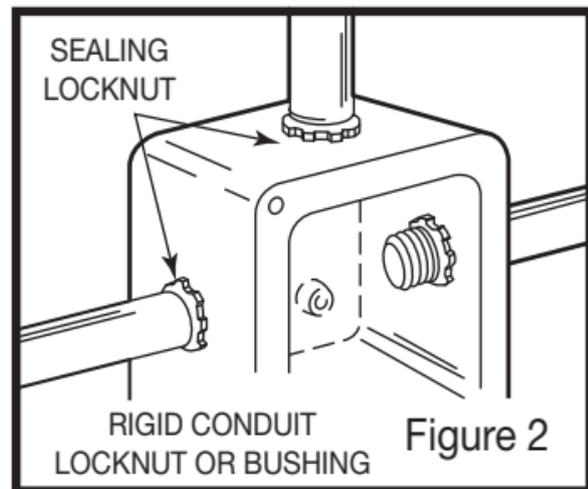

Figure 2
2. Insert conduit into entry at enclosure with sealing locknut on outside as shown in Figure 2.